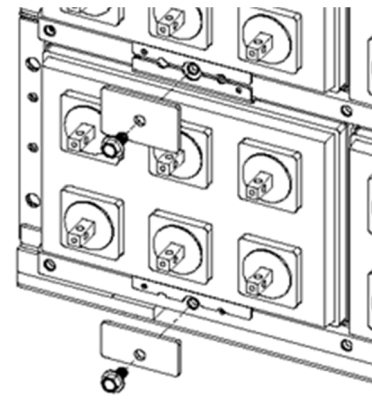

FIGURE 6
1. For each cell module, install retainer plates, using the M10x1.5 - 25mm Serrated Hex Bolt included in the accessory kit. See Figure 6. The middle rows use a flat retainer, the top and bottom rows use a retainer with a formed edge. See Figure 6.